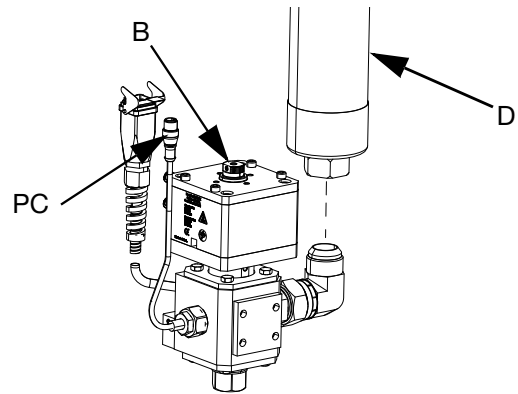

FIG. 22
- 7. If two hoses are used, connect Supply Hose 2 (D) to the inlet fitting on the Dispense Valve (B). If only one hose is used, connect Supply Hose 1 (C) to the inlet fitting on the Dispense Valve (B). See FIG. 22.